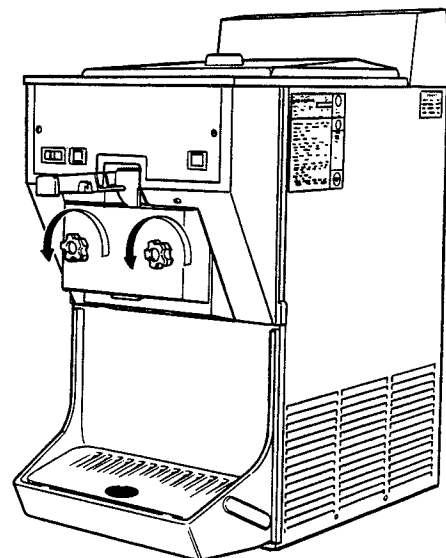

Figure 20. Removing Front Door
- B. Remove the front door by turning off the circular knobs and then pulling the front door off the studs (Fig. 20).